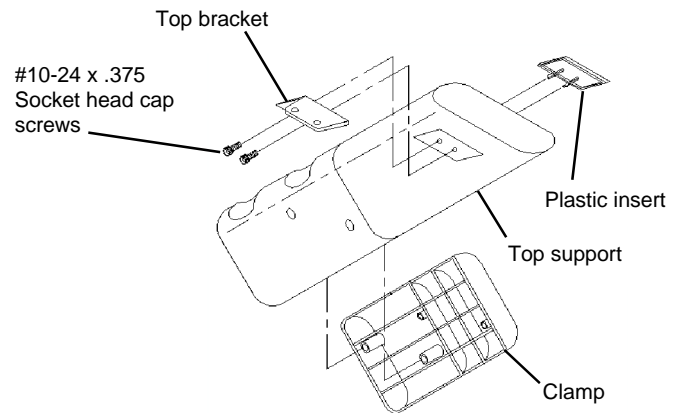

Figure 2
1. Fasten the appropriate **Top Bracket(s)** to the Top Support, using two #10-24 x 3/8" Socket head cap screws that are provided. See **Figure 2**.